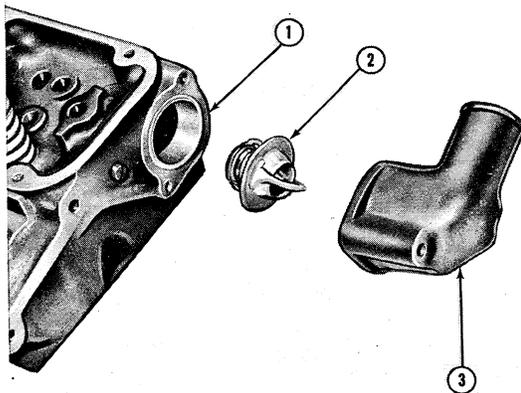

Figure 4
- Remove the coolant outlet connection, the thermostat and gasket, Figure 4.